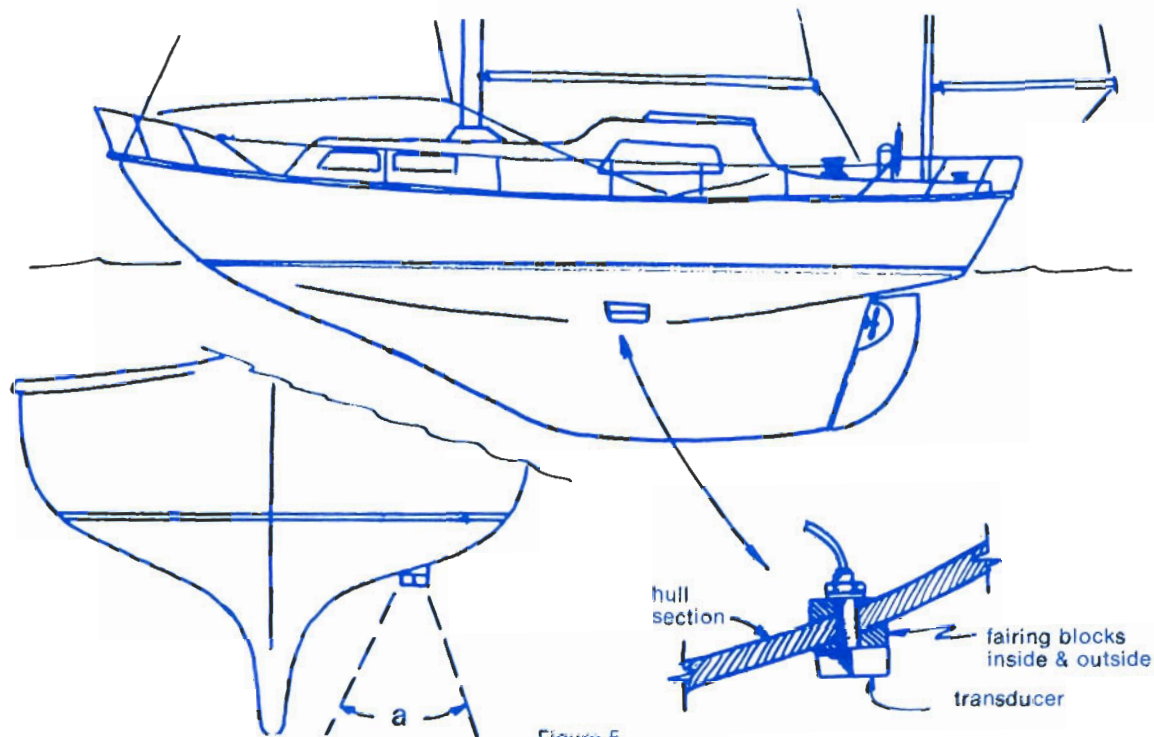

Figure 5
- B. A-104 bronze stem-type: If the low-profile, flush transducer is unsuitable for installation, the A-104 stem-type transducer may be substituted. This transducer requires a small diameter hole through the hull and leveling blocks. This transducer may also be recessed into the stem of the boat. (see Figures 5 and 6)